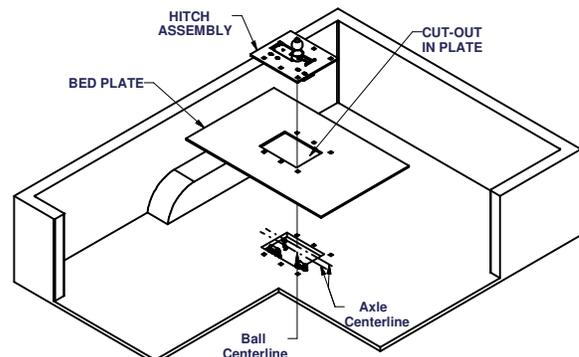

FIGURE 4
1. Center bed plate in the pickup bed. (**Figure 4**).